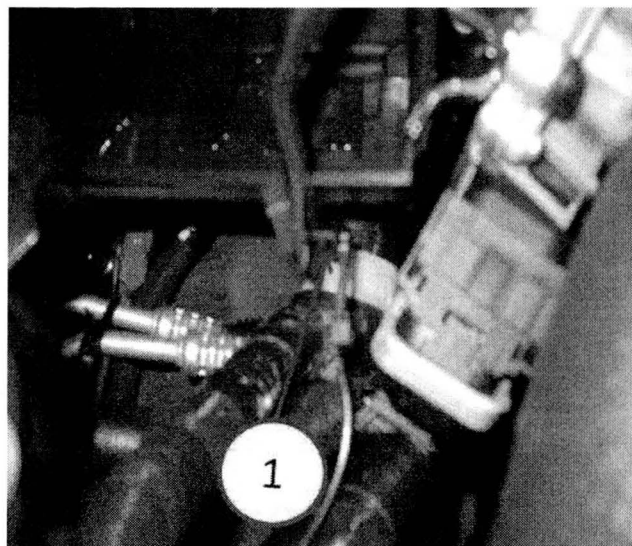

Fig. 6 Christmas Tree PCM
5. Remove christmas tree from the PCM bracket (Fig. 6).